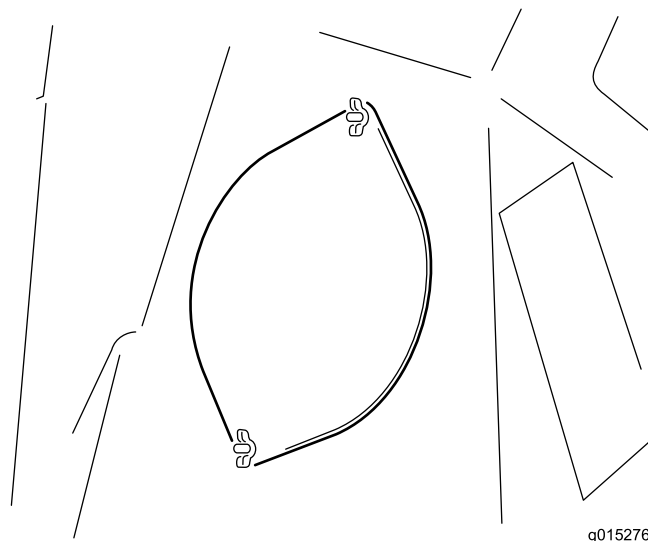

Figure 31
2. Loosen the 2 wing nuts securing the access plate (Figure 31).